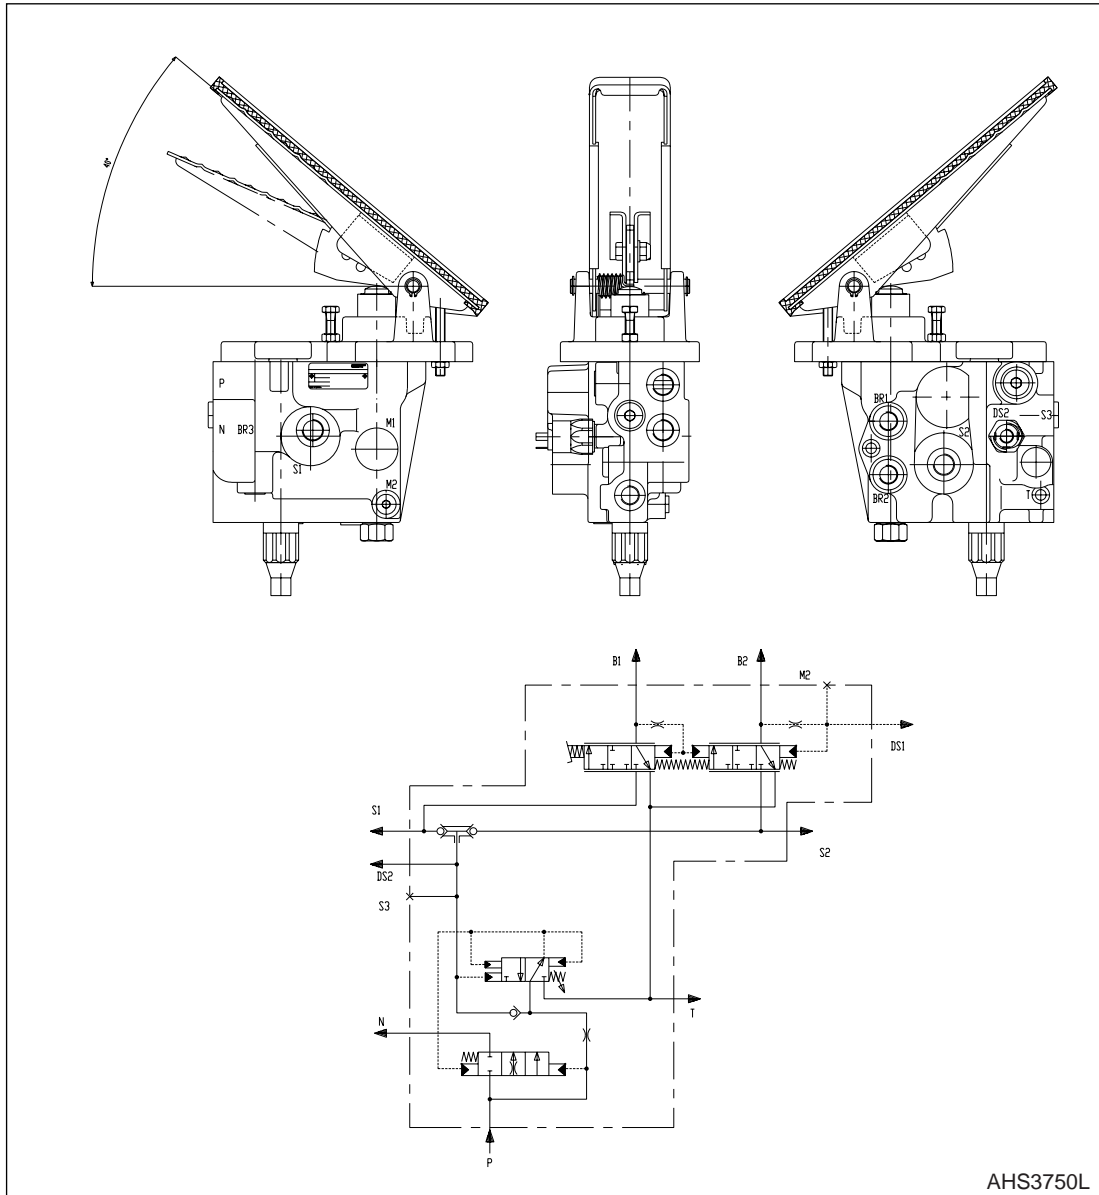
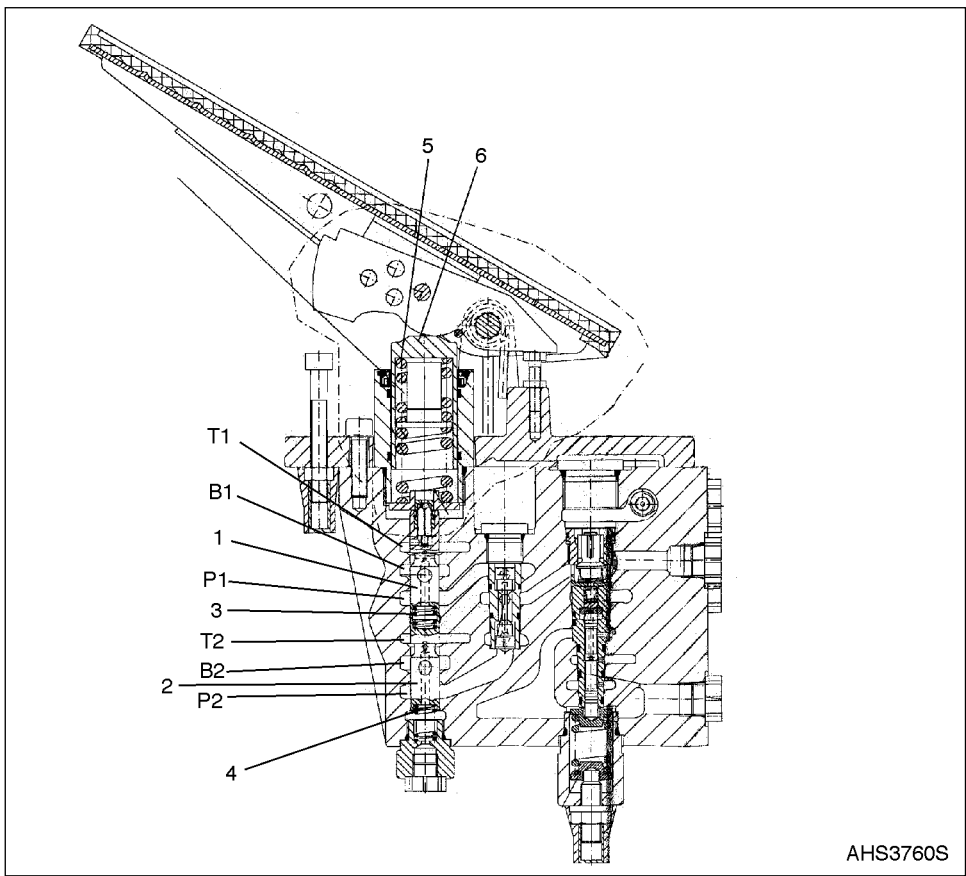

Figure 1
Figure 2
The brake pedal valve is attached to, and operated by, the brake pedal (Figure 1). The valve contains two spools (Figure 2). One spool ports fluid to the brake pistons in the front axle, and the other spool ports fluid to the brake pistons in the rear axle. Maximum system operating pressure is 60 bars (870 psi). If something in one of the circuits should fail, the other circuit will continue to operate.
When the brake pedal is depressed, force is applied to the working element (6, Figure 2). This force is transferred to the primary control spool (1) and the secondary control spool (2) by the main control spring (5). This causes the control spools to close the path from the supply ports (P1 and P2) to the tank ports (T1 and T2). Simultaneously, the spool then opens a path from the brake circuit ports (Br1 and Br2) to the supply ports (P1 and P2). Drilled passages in control spools (1 and 2) allow fluid pressure in ports P1 and P2 to act against the main control spring (5). This allows brake pressure in both circuits to rise proportionally to the force applied to the brake pedal.